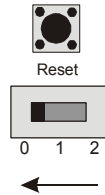

Figure 2-11
- √ Turn off the power by setting the 3-position switch on your Board of Education to position-0 (see Figure 2-11).